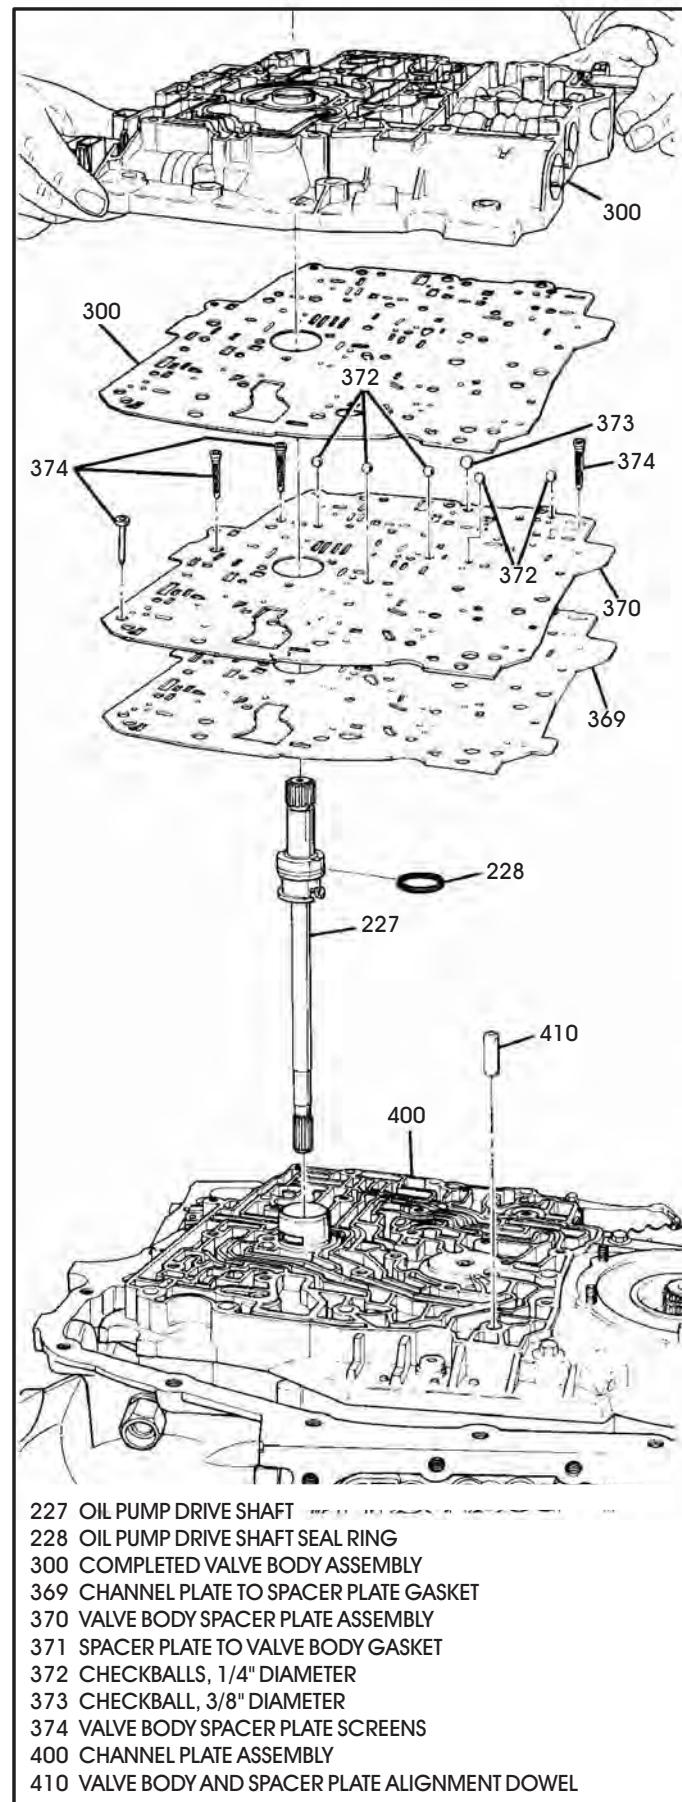

Figure 203
69. Install new sealing ring on the oil pump drive shaft and install pump drive shaft through the channel plate, as shown in Figure 203.
70. Install the valve body alignment dowel in the location shown in Figure 203.
72. Install a new channel plate to spacer plate gasket onto the channel plate (See Figure 203).
74. Install spacer plate on top of the channel plate gasket that you just installed (See Figure 203).
75. Install spacer plate to valve body gasket on top of the spacer plate as shown in Figure 203.
77. Carefully install the preassembled valve body down on top of the gasket and over alignment dowel, as shown in Figure 203.